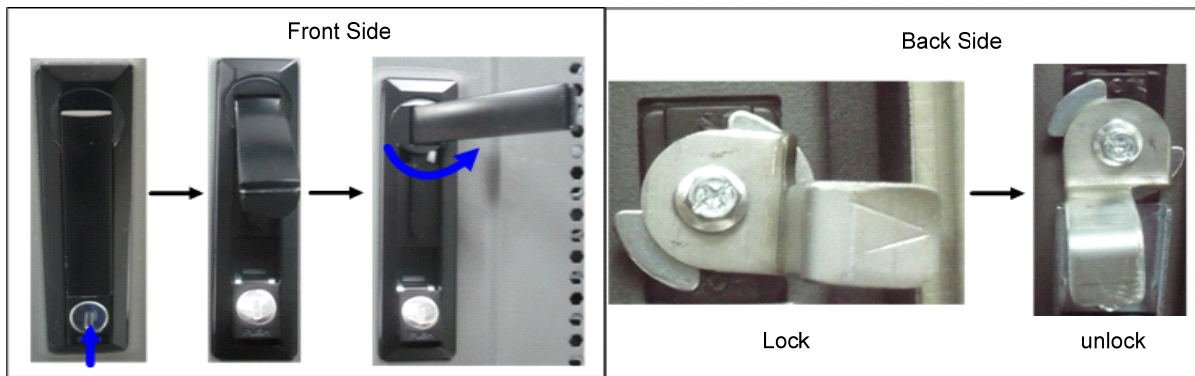

Figure 3-8 Opening the Cabinet Door
**Step 1** Open the front and back door, as shown in Figure 3-8.